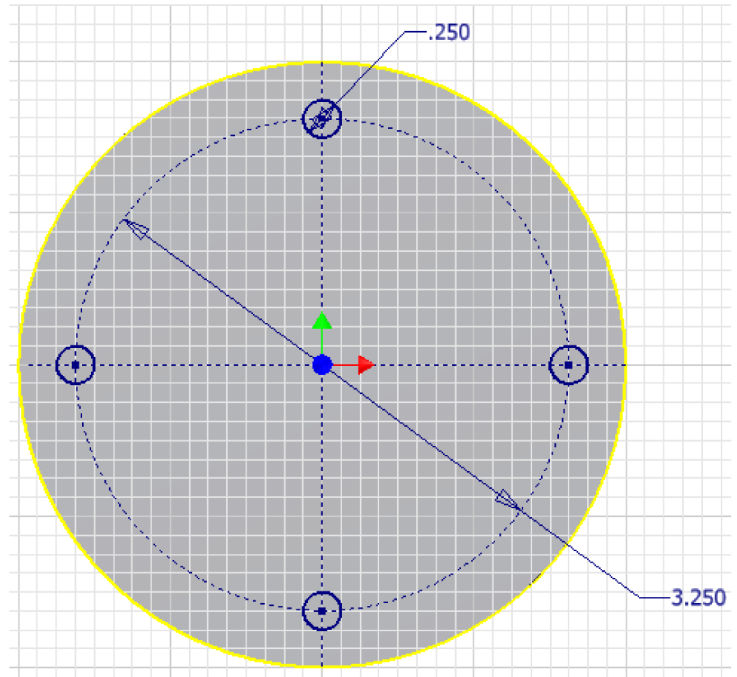

Figure Step 11A
**Step 11** Using the technique that you learned in Module 12, draw the 4 circles. Dimension one and constrain the additional 3 with an Equal constraint. (Figure Step 11A and 11B)